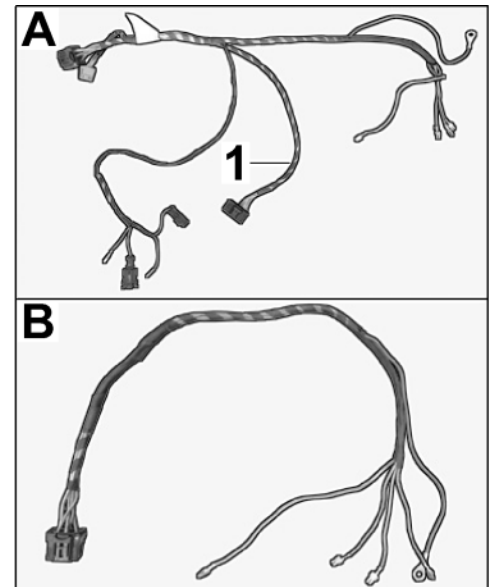

Figure 6
2.3.1 Remove branch for button for electric towbar system (⇒ *Figure 6 -1-*) and other branch from the RdW version wiring harness.
2.3.2 Complete wire harness USA version. ⇒ *Figure 6 -B-*